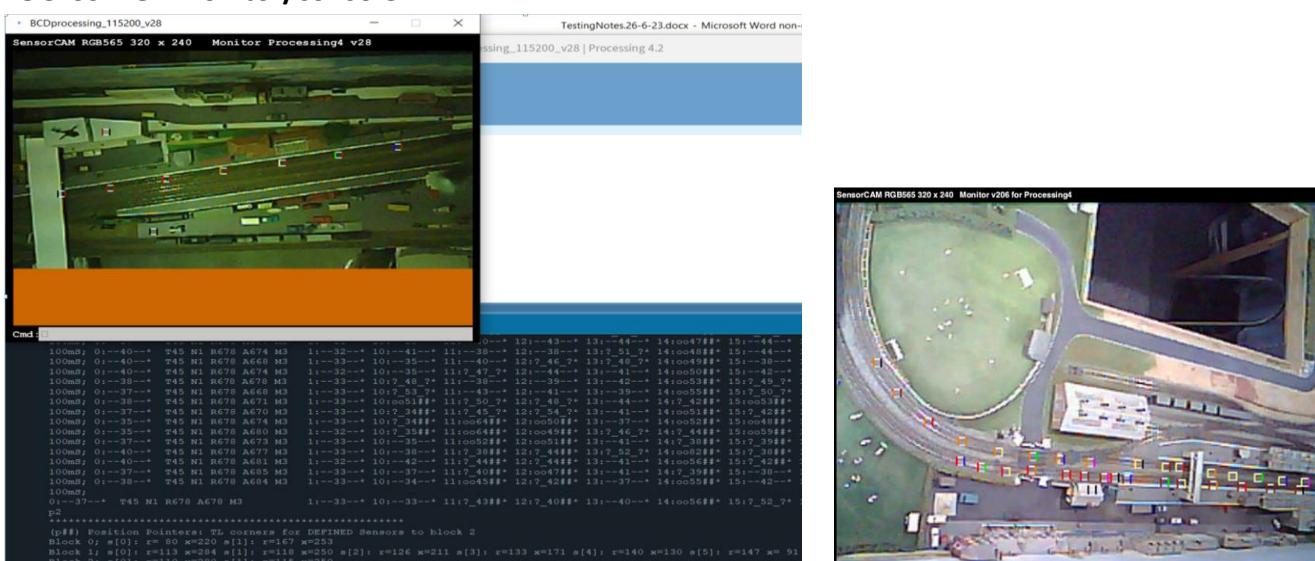

Figure 5 Processing 4 Console and image window
With regards lighting, fluorescent or LED lighting normally flickers at twice mains frequency so it pulses at 100 or 120Hz. This is normally tolerable, but it can be seen in a sensorCAM image on a uniformly white test panel as below (Figure 5). In 100mSec there could be up to 10 bands in one image. SensorCAM tries to synchronise with the mains frequency, but if it fails the faint bands will drift across the sensors and potentially trip them in the worst case scenario. Set the threshold high enough to avoid such trips. Figure 4 shows an example of bad 100Hz banding.
5.1 The first step is to decide a sensor distribution strategy & numbering system. A sensorCAM has 10 banks (0-9) of eight (0-7) individual sensors available (total 80). Each bank can be tested as a whole to see if ANY sensors tripped or NO sensors tripped. Also placing a string of sensors in a row, for example along a platform, can indicate train position with the binary bank value increasing as the train approaches a signal as it crosses sensors 0 through 7. (see **Figure 5** for examples) Sensors are generally referred to with a two digit bank/sensor designation (their bsNo.) e.g Sensor 68 and 69 are therefore invalid bs numbers, 97 is valid. Use one bank for a platform (set of 8 sensors). Sensor S00 is reserved as a brightness reference sensor. Sensor S06 is also RESERVED for now. It is suggested that user's Sensors start with bank 1, i.e. S10 (vPin ..8), S11 upwards, with related sensors in their own bank. They do not need to be sequential (**Follow the installation Guide for full details**). **With the recommended definitions set up, the use does not need to remember or refer to vPins for sensorCAM sensors.**
Test image with Fluorescent or LED lighting – note three faint dull stripes across white test panel in **Figure 5** below. Strong banding is also evident in **Figure 4**. Horizontal stripe position varies frame-to-frame as not effectively synchronized with mains yet. (**Figure 5** image was obtained using V, H & Y60 Processing4 commands)
The sensorCAM Processing 4 monitor accepts commands W, X, Y & Z which allow one to nominate a “strip” or subsection to image. e.g. `Z80, X240, Y,` will update the last quarter image (columns 240-319) of the 240x320 pixels in 4 seconds. This method enables, for example, comparison of quarter images under different lighting conditions by using different X values.. Similarly `W60, Y120,` will produce a quarter image from row 120. Each part image is pasted over previous images. Each new image appears more quickly if only a subsection is specified this way. The ***next*** image can be flipped Vertically (y) and Horizontally(x) by using V &/or H before capture. The **Figure 5** image used `V, H, Y60,` The values for V, H, W, X & Z are remembered for subsequent ‘Yrrr’ commands so need not be repeated. **NOTE: Do not flip** before creating new sensors as cursor coordinates don’t flip.